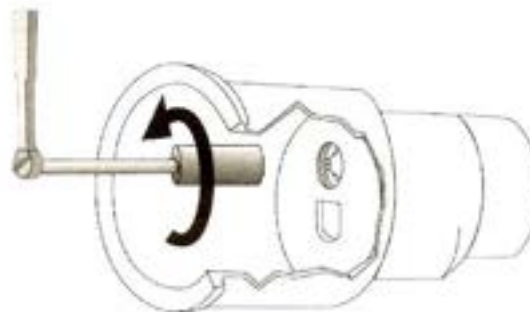

Figure 2
7. Remove nozzle (if necessary) by unscrewing it with a 5/8" deep well socket wrench (see Figure 2).